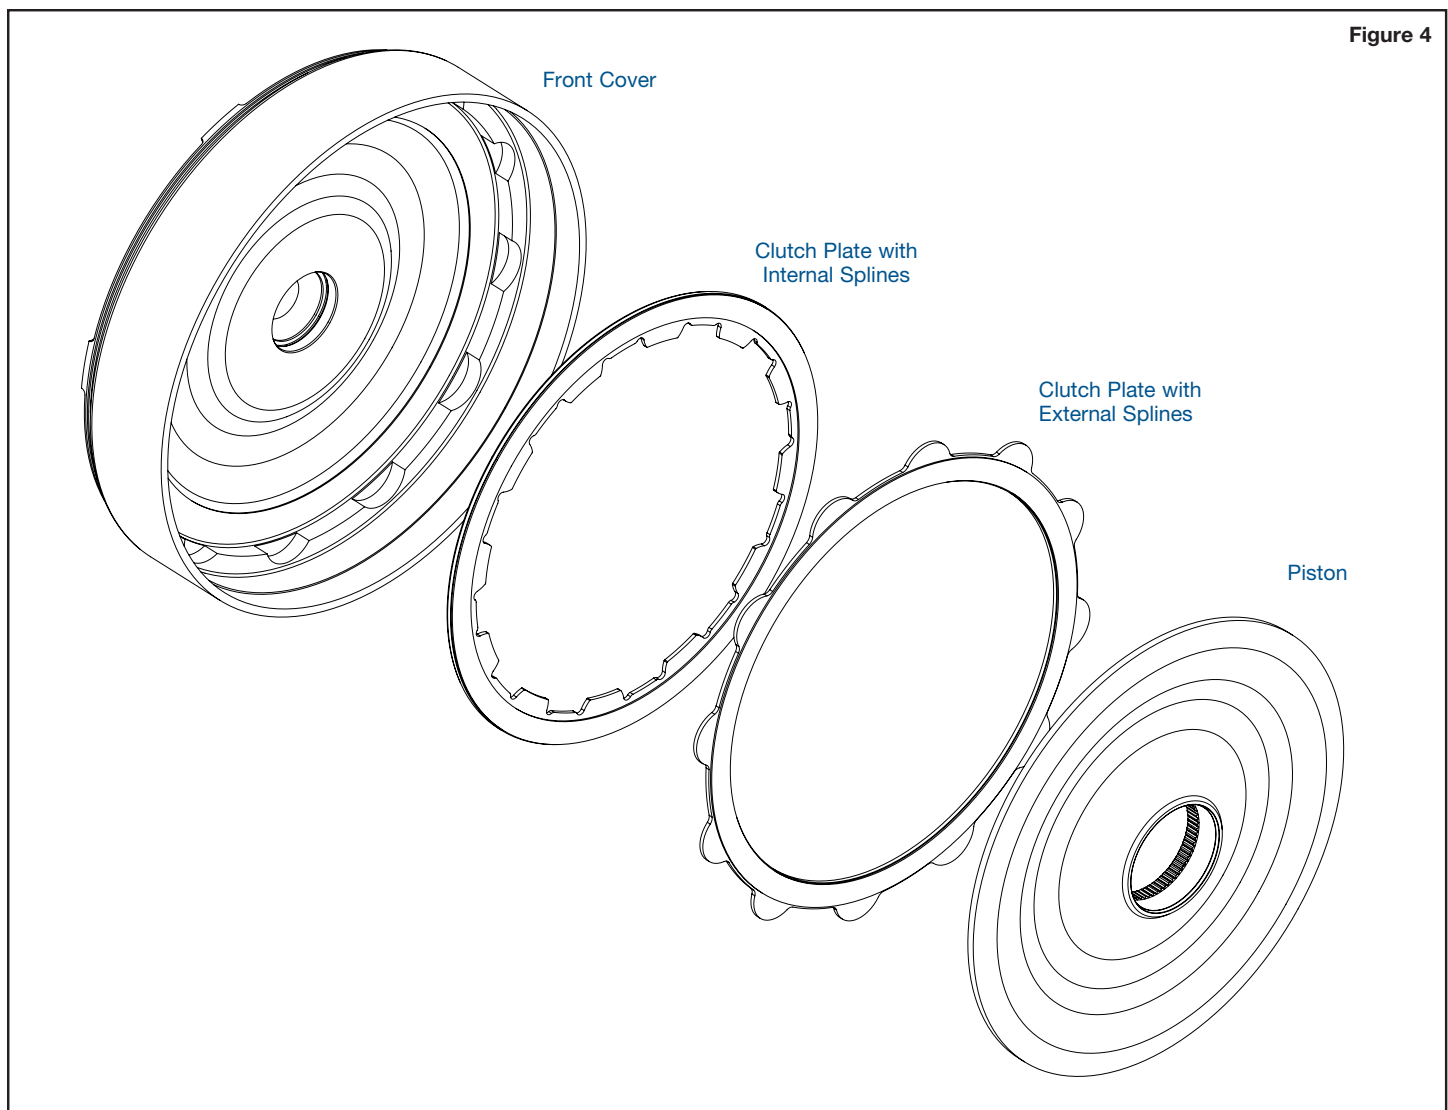

Figure 4
- a. Drop the internally splined (dual friction) clutch plate into the front cover (**Figure 4**).
- b. With the steel side towards the cover and the friction side towards the piston, install the externally splined (single friction) clutch plate into the front cover, rotating to engage the splines (**Figure 4**).